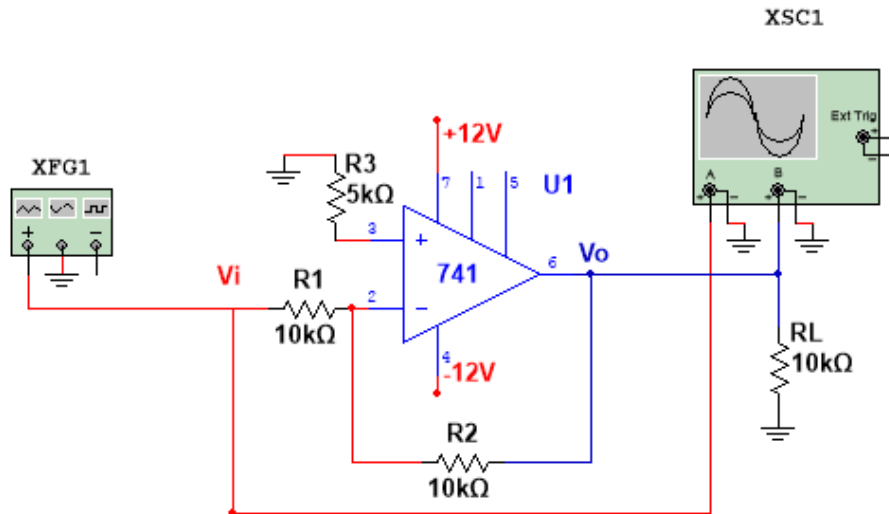

Figure 7.4: Inverting voltage follower Amplifier
1. Connect circuit diagram according to given circuit shown in Figure 7.4.